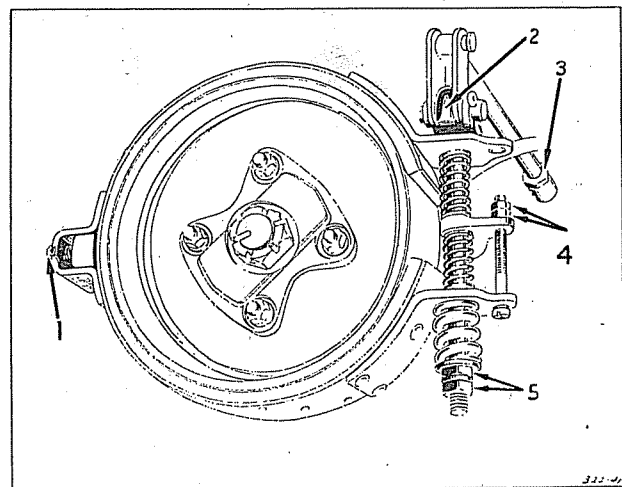

Fig. 21—Hand Brake Adjustments, 1-08A, 2-26A, 2-33A.
- (1) Remove large adjusting bolt nut (5) Figure 21.
- (2) Remove guide bolt adjusting lock nut.
- (3) Remove anchor adjusting shoe (1). Pull band assembly away from transmission and off propeller shaft after unlocking large adjusting bolt (2).
- (1) Set hand lever in fully released position.
- (2) Remove anchor screw lock wire and adjust screw (1, Figure 21) so lining and drum have .015 inch to .020 inch clearance on 1-08A, and .015 inch to .030 inch on models 2-26A and 2-33A.
- (3) Lock anchor adjusting screw with lock wire.
- (4) Back off large adjusting bolt nut (5) until free.
- (5) Turn guide bolt adjusting nut (4) after loosening lock nut until band and drum have .015 inch to .020 inch clearance on 1-08A and .015 inch to .030 inch on models 2-26A and 2-33A.
- (6) Lock guide bolt in place with lock nut.
- (7) Tighten large adjusting bolt nut (5) until tension on the guide bolt is just relieved at either end. Tighten lock nut.
- (8) Lubricate all frictional surfaces of brake control linkage and anchor bolts with engine oil.